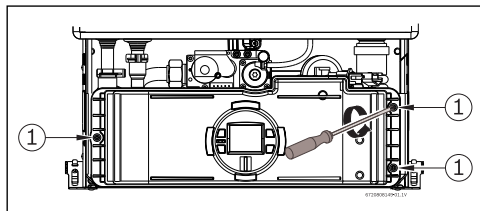

Fig. 1 Control unit front
- ▶ Remove three Phillips screws on front of control unit (Fig. 1, pos. 1).